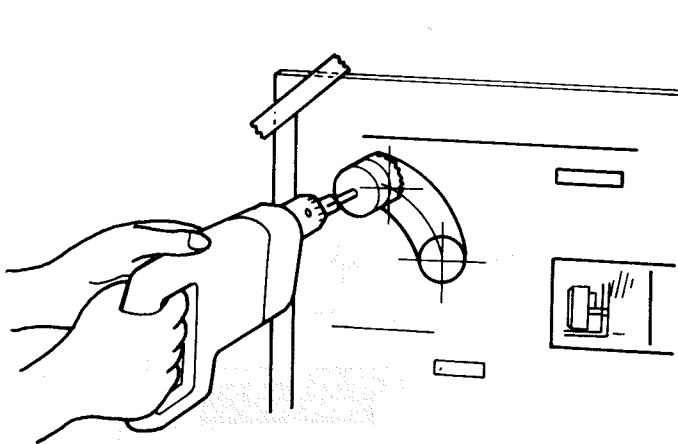

Fig. 5
4. Cut the hole for the standard flue pipe from inside the room. Use a 3-1/4" diameter hole saw attached to an electric drill (See Fig. 5). The opening on the inside wall should be slightly higher than the outside opening (approximately 1/2") so that the wall sleeve and the standard flue pipe will slope slightly downward (approximately 3 degrees) after it is installed (See Fig. 6). This will enable the draining of condensed moisture from the standard flue pipe to the outside and prevent rain or snow entering from outside after installation.